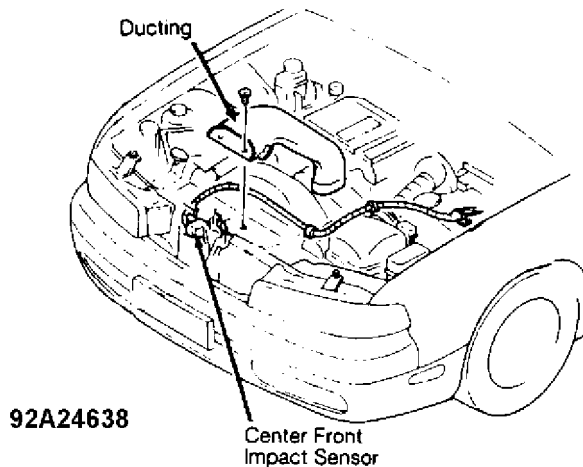

Fig. 5: Removing Center Front Impact Sensor
2) Front impact sensors are located in center front, left front and right front of vehicle. See Fig. 1. To remove center sensor, disconnect connector. Remove ducting (for intake air). See Fig. 5. Remove sensor bolts. Open harness retaining clips. Remove sensor and harness.